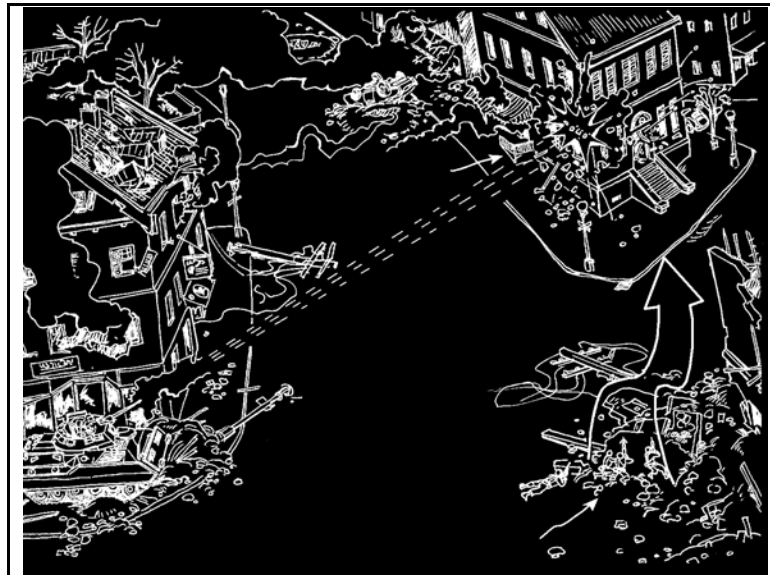

Figure 2. M2 providing direct fire support.
2. Use the M2 to provide direct fire support for the dismount team (Figure 2). Have the fighting vehicle teams move behind the dismount teams and move up to engage targets located by the dismount teams.